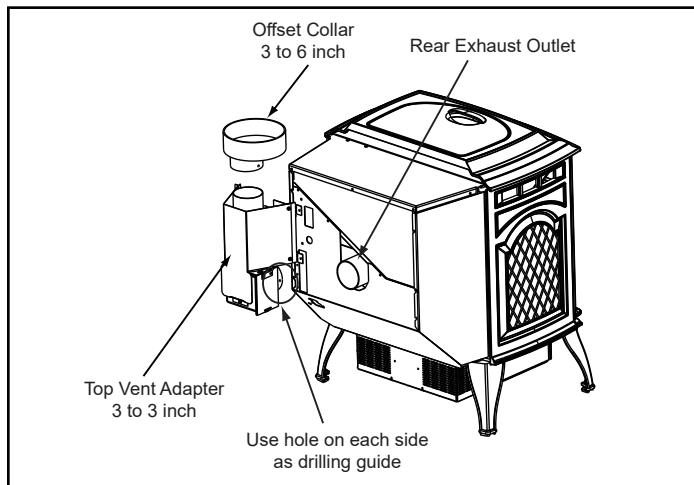

Figure 21.1
1. Put a layer of high temperature silicone on the 3 inch (76mm) rear exhaust outlet. Do not put silicone inside of pipe (**Figure 21.1**).
2. Slide the top vent adapter onto the rear exhaust outlet and adjust the assembly to a vertical position (**Figure 21.1**).
3. Drill 4 holes with #26 drill bit (provided) into the back of the appliance using the outer shield as a pattern (make sure the assembly is vertical) (**Figure 21.1**).
1. Put a layer of high temperature silicone on the 3 inch (76mm) exhaust outlet. Do not put silicone inside of pipe (**Figure 21.1**).